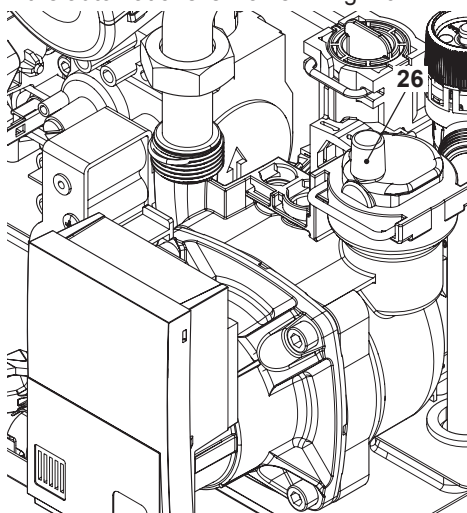

Fig. 10.7
- To make draining easier, lift the plug 26 of the automatic relief valve in Fig. 10.7.